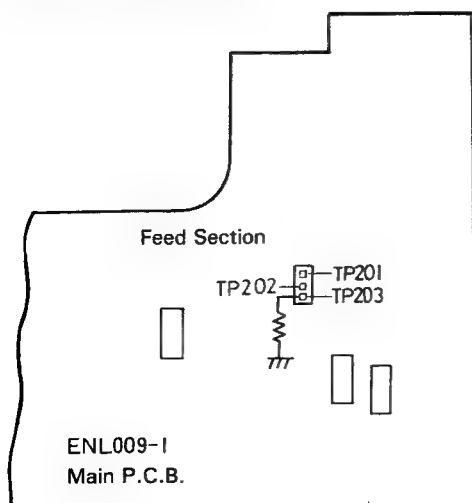

Fig. 21
1. Connect TP203 to ground via a $2.2\text{k}\Omega$ resistor, as shown in Fig. 21.
3. Adjust screw (A) to obtain a voltage of $85 \pm 10 \text{ mV}$ between TP201 and TP202.